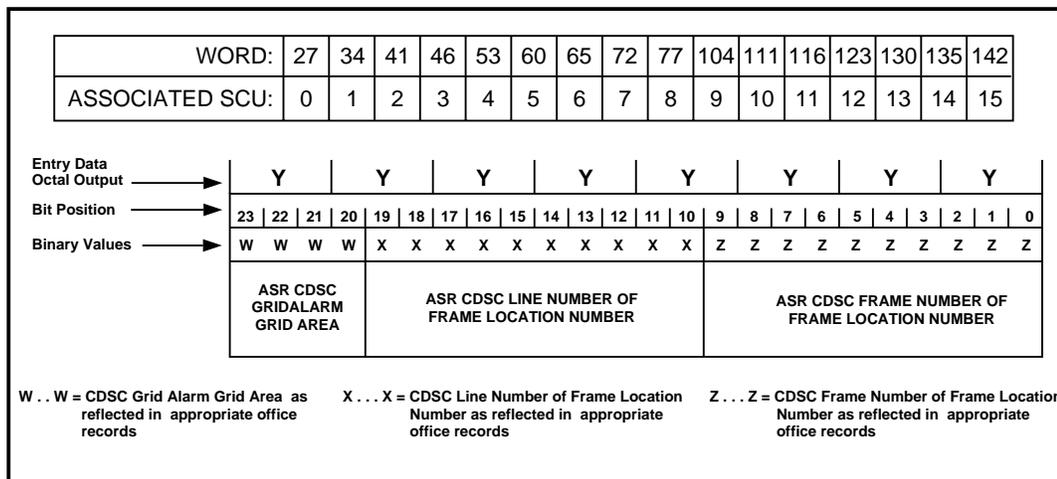

Figure 2. GLF Word in Unit Type Translator
3. Using the correct GLF octal word supplied in the "332 Job Specification" for comparison, verify that the GLF word in the Unit Type Translator (Figure 1) is correct for the appropriate SCU/CDSC. Figure 2 shows the layout of the GLF word for each SCU.